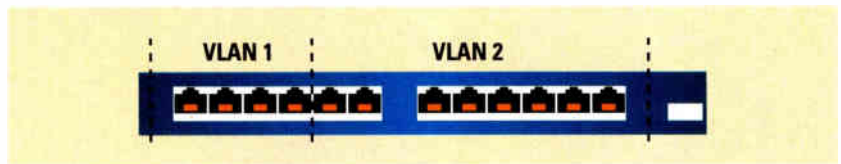

Figure 2. In this switch configured for two VLANs, ports 1-4 are assigned to VLAN 1. Ports 5-12 are assigned to VLAN 2.
- *Ethernet switch ports are configured for a specific VLAN.* As shown in Figure 2, each Ethernet switch port is assigned to a specific VLAN on the switch. VLANs are an all-or-nothing approach. Once a switch is set to use VLANs, every port on the switch must be assigned to a VLAN.